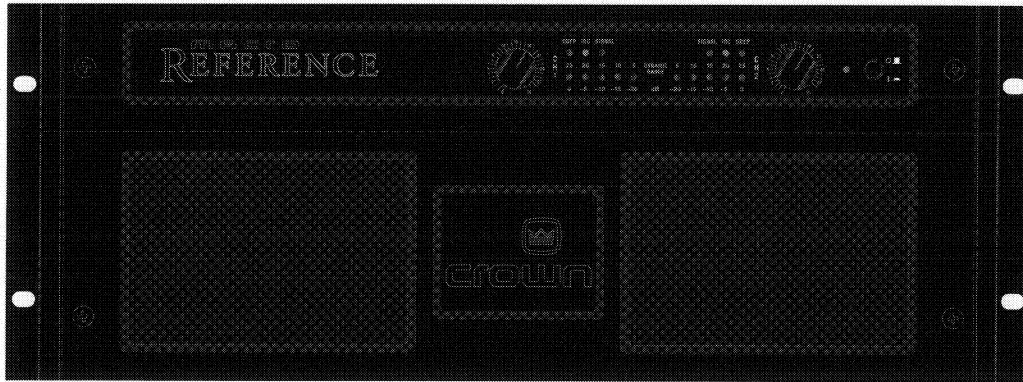

Fig. 1.1 Macro Reference Amplifier with Engraved Electroluminescent Front Panel
- ❑ Two front panels are available: A deluxe engraved front panel with electroluminescent backlighting (Figure 1.1) or a standard steel front panel (Figure 1.2) for rugged applications. Both include an *ODEP*, *IOC* and Signal Presence indicator and a Dynamic Range/Level meter for each channel as well as an Enable Indicator.